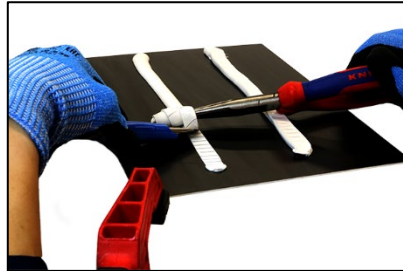

Figure 15 Twist the bead to get maximum peel tension; cut regularly
- Hold the separated part of the bead with a pair of needle-nose pliers and slowly turn the bead (applying peel stress), attempting to separate it from the substrate. Just before the adhesive breaks, cut the bead bottom down to the substrate as shown in Figure 15. This maximizes the peel effect.